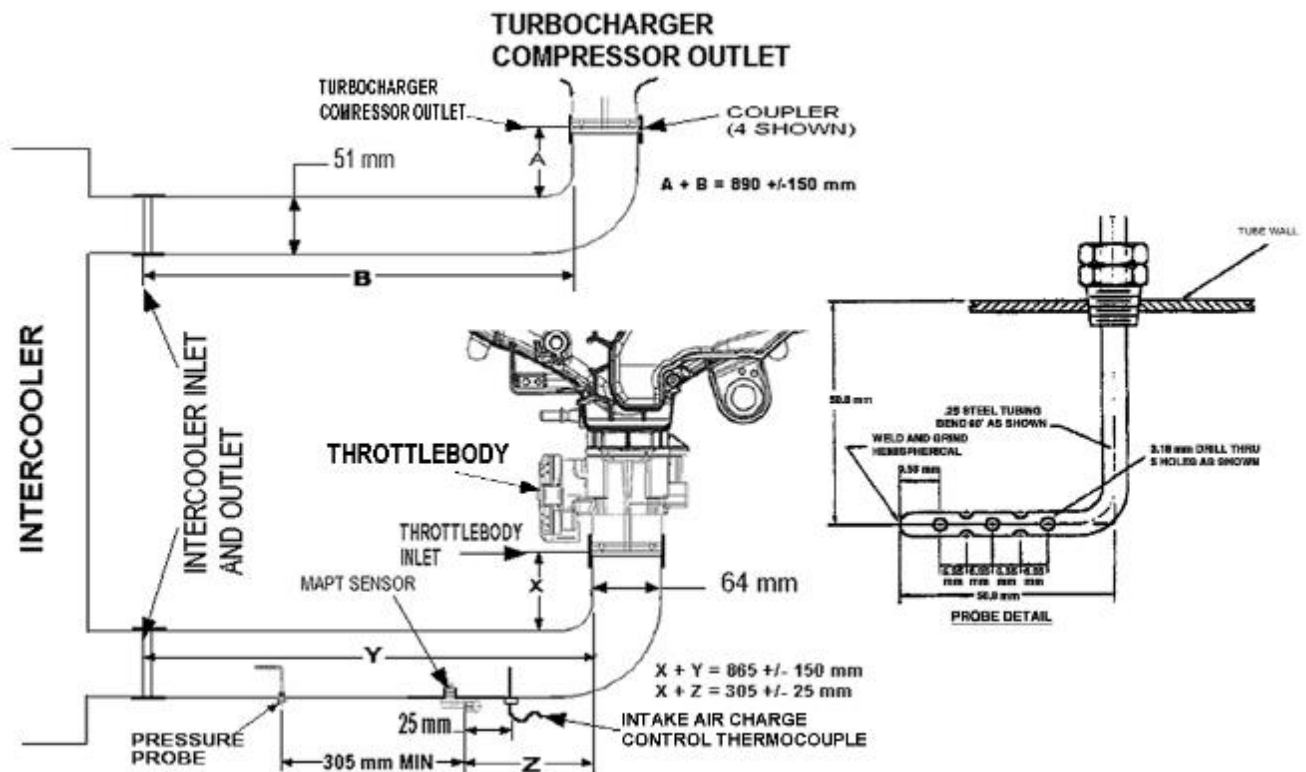

Figure 8: Intercooler Tubing Measurements and Instrumentation
- Intercooler Tubing:** Fabricate the intake air system with 36 ± 6 inches long 2 inch ID stainless steel tubing from the turbocharger to the intercooler and 36 ± 6 inch 2 1/2 inch ID stainless steel tubing form the intercooler to the throttle body. Locate the MAPT sensor 12 ± 1 inches from the intake surface of the throttle body and the intake air charge temperature thermocouple 1 inch downstream from the MAPT sensor. The post turbo boost pressure measurement probe should be placed a minimum of 12 inches upstream from the MAPT sensor. The measurements can be seen in Figure 8.